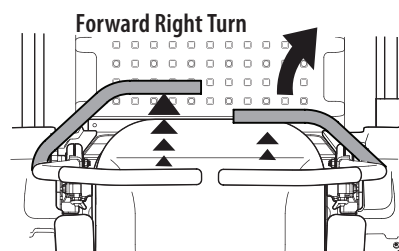

Figure 28
2. To turn to the right, move the right drive control lever rearward of the left lever (Figure 28).